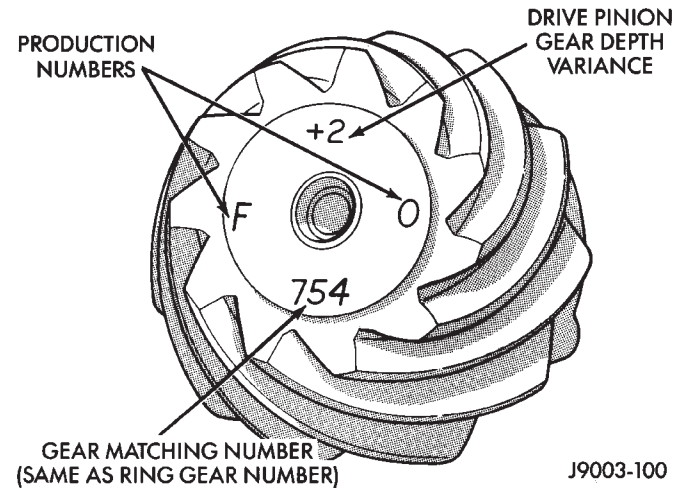

Fig. 51 Pinion Gear ID Numbers
Ring and pinion gears are supplied as matched sets only. The identifying numbers for the ring and pinion gear are marked on the face of each gear (Fig. 51). A plus (+) number, minus (-) number or zero (0) is marked on the face of the pinion gear. This number is the amount (in thousandths of an inch) the depth varies from the standard depth setting of a pinion marked with a (0). The standard depth provides the best teeth contact pattern. Refer to Backlash and Contact Pattern Analysis Paragraph in this section for additional information.
(25) Select a shim equal to the shim selected above plus the drive pinion gear depth variance number marked on the face of the pinion gear (Fig. 51) using the opposite sign on the variance number. For example, if the depth variance is -2, add +0.002 in. to the dial indicator reading.